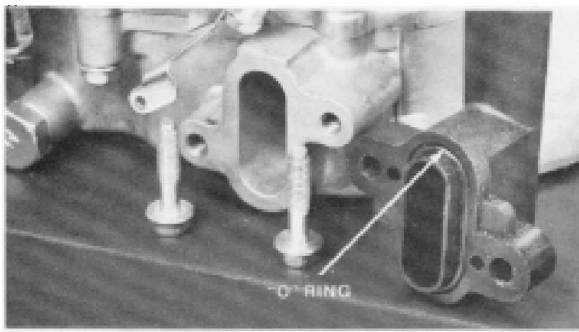

Figure 4-4
3. Note the position and condition of the "O" ring on the fill tube. If it is pinched or flattened, it should be replaced. See Fig. 4-4.